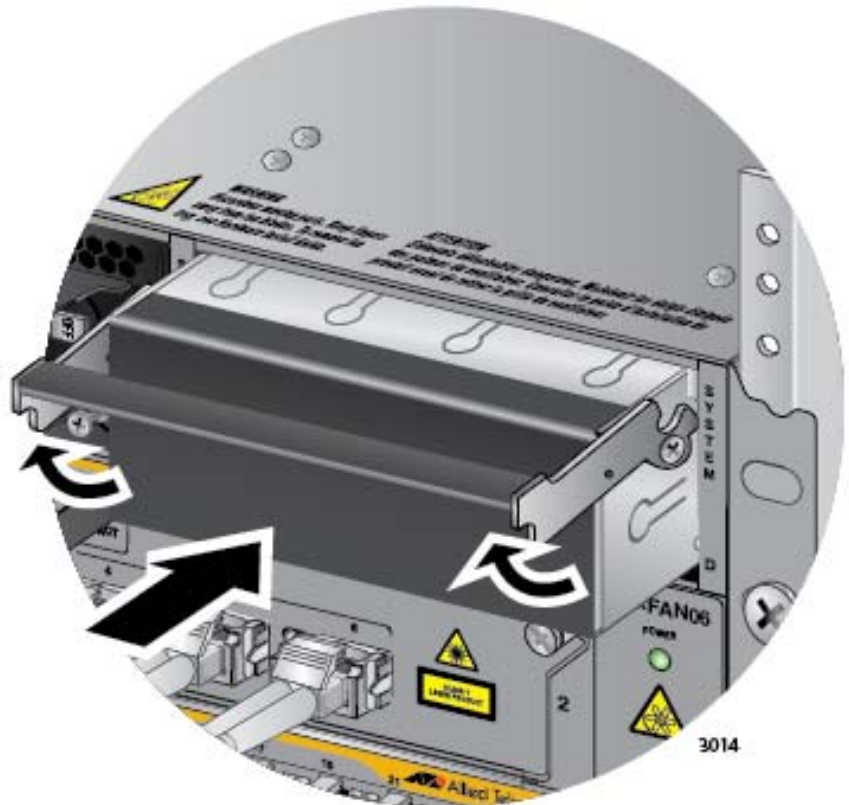

Figure 145. Installing a Blank Power Supply Slot Cover
13. Place the locking handle on the slot cover in the up position and slide the cover into the empty power supply slot. Refer to Figure 145 on page 229.